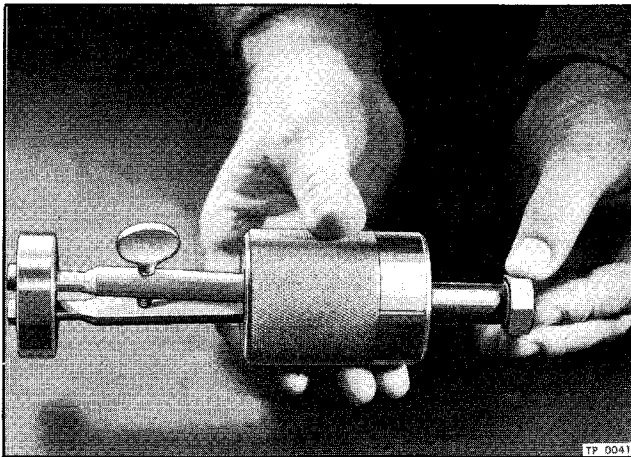

Figure 3—Tool (CS-1914) For Removing Pilot Bearing
3. Remove cover bolts (29) meanwhile supporting clutch to prevent distortion of clutch dowels (8). Tap flange of clutch cover with soft mallet to free assembly from flywheel. Remove clutch assembly and driven disc.
4. Remove bolts (36) and remove retainer (40) which retains pilot bearing (35) in flywheel. After retainer is removed, install two bolts to hold flywheel on crankshaft while removing pilot bearing.
5. Remove pilot bearing using tool (CS-1914, fig. 3). Spread puller prongs in bearing by tightening thumb screw, then slide weight against stop nut to pull bearing.